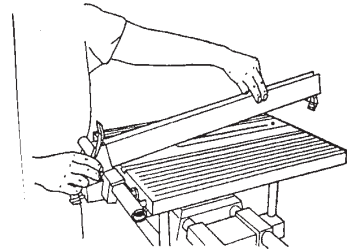

Figure B-87
65. Place the rip fence on the worktable by first putting the fence base on the front tube, as demonstrated in Figure B-87, then lowering the rest of the rip fence.